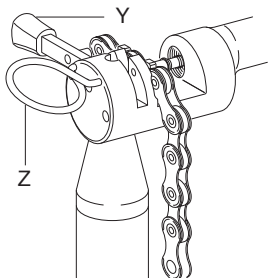

Fig.10
- Clamp the link with the special clamping device (Z - **Fig. 10**).
- Check that the tongue of tool **UT-CN400** is in the external position (Y - **Fig. 10**).